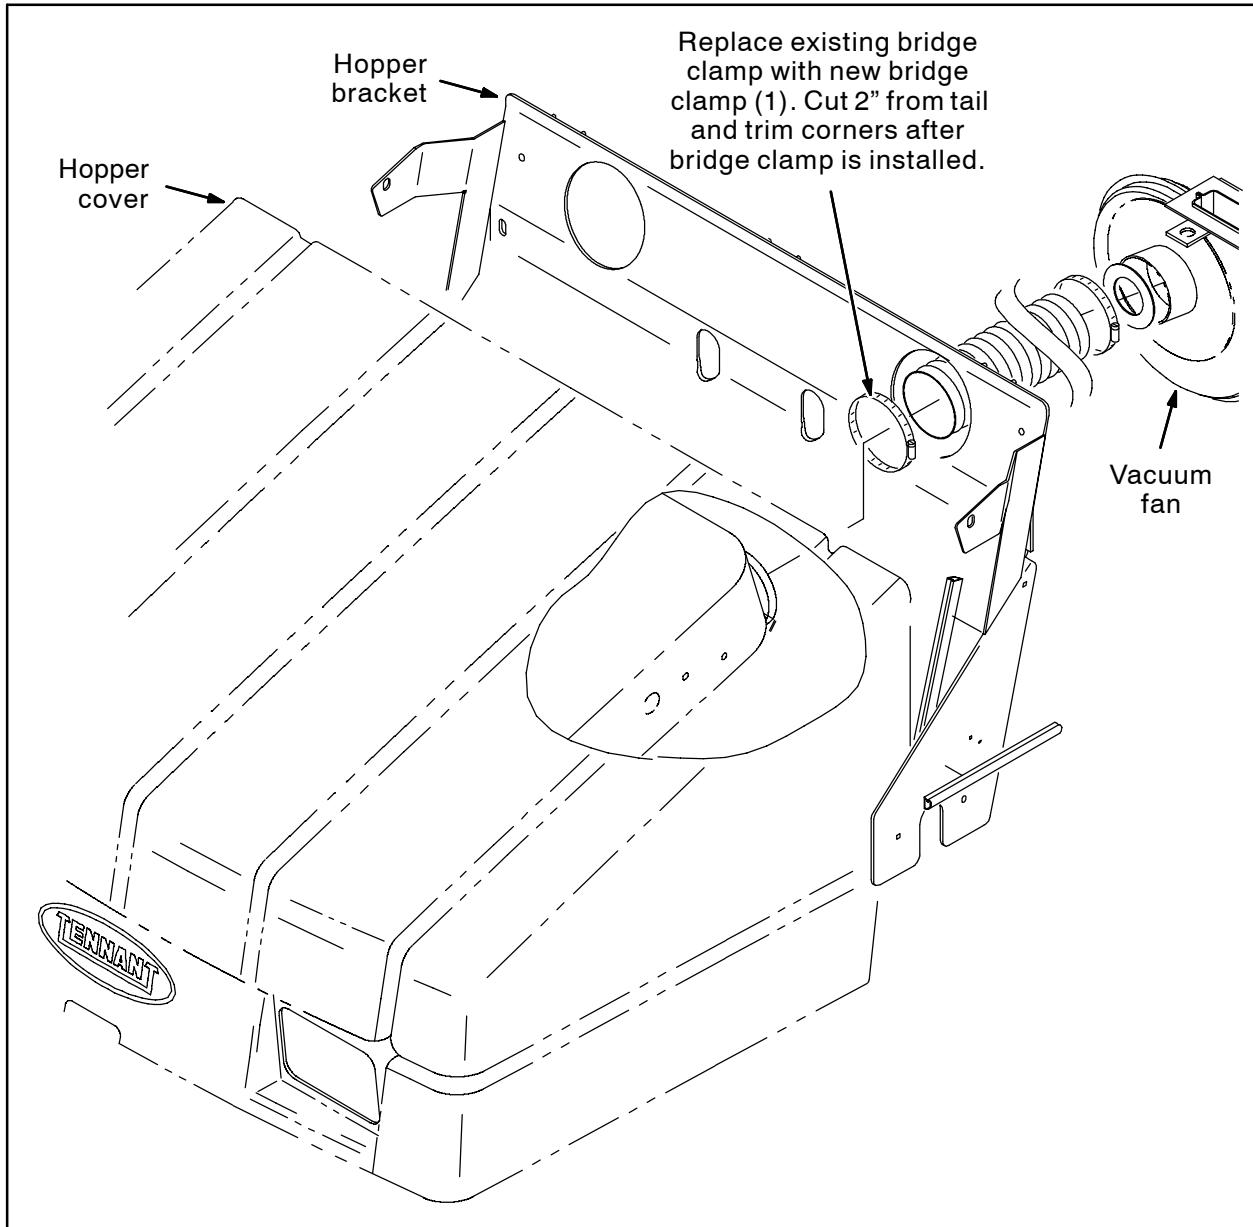

FIG. 1
1. Remove the old bridge clamp securing the flex hose to the hopper cover. Discard the bridge clamp. Refer to Fig. 1.
2. Use the new bridge clamp (1) to secure the flex hose to the hopper cover. Refer to Fig. 1.
3. Cut the tail, approximately 2", from the bridge clamp (1). Refer to Fig. 1.
4. Trim the sharp corners from the bridge clamp (1). Refer to Fig. 1.